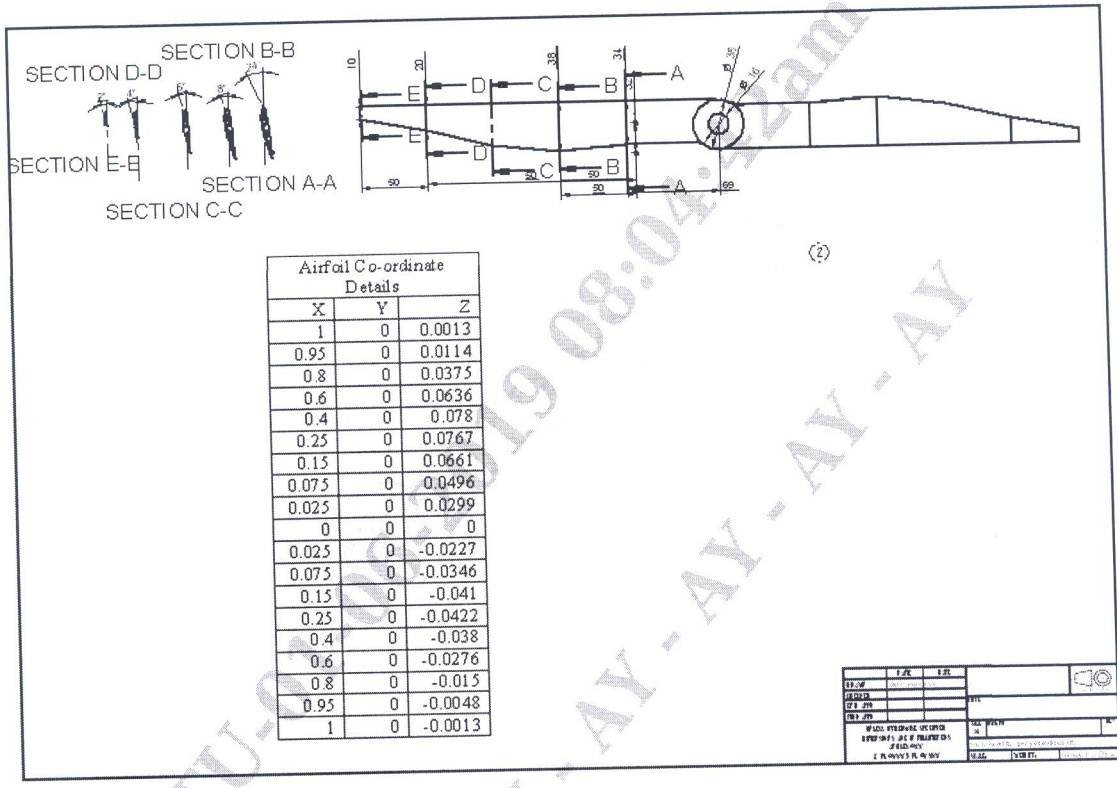

Fig 2.
6. The details of a PROPELLER HUB ASSEMBLY are shown in fig2. Draw front, top and left views of the assembly. 60 marks